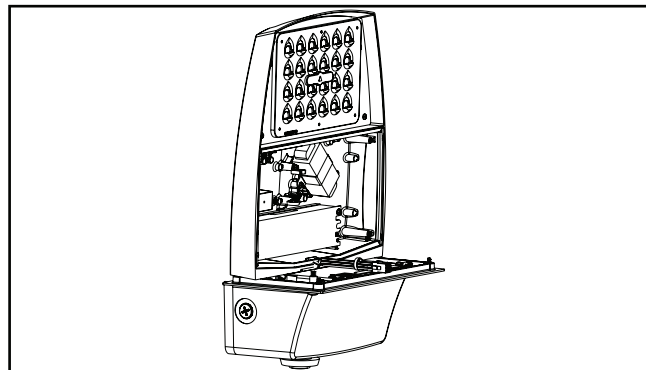
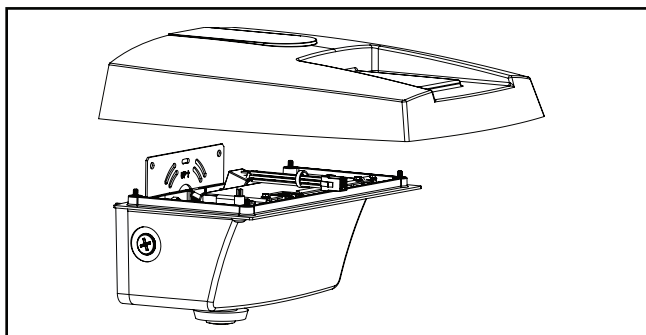

Figure 12.
Figure 13.
- Place the fixture housing on the drop door as shown in Figure 12. Immediately make the wire harness connections to fixture housing. Do not leave the fixture housing unattended during this step. Lift the fixture housing and align it on the drop door. Secure the fixture housing to the drop door with the four Phillips flat head screws. Torque screws to 20 in-lbs. (Figure 13).